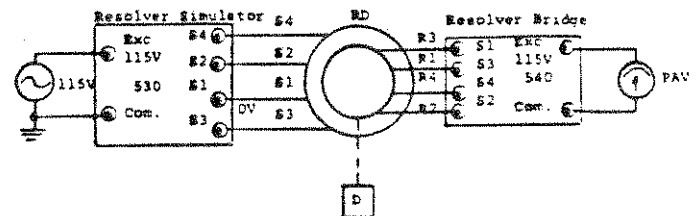

Figure 7-22. Angular Accuracy (RD Rotor)
- a. Set up equipment as shown in figure 7-22.